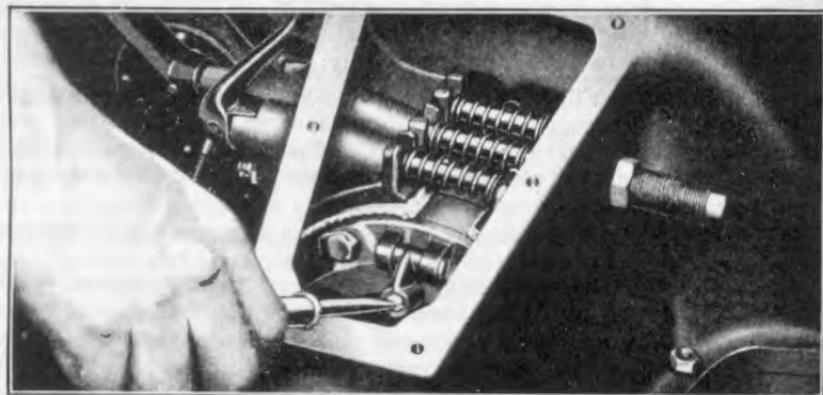

Fig. 507
- 1060** To adjust the clutch, jack up one of the rear wheels and remove the mat, floor boards, and transmission cover door. Place hand brake lever in forward position and turn the engine over with the starting crank until one of the three clutch fingers is directly below the opening in the transmission cover. Withdraw cotter pin from clutch finger screw and give the screw (See Fig. 507) one-half turn (clockwise), then replace the cotter pin and adjust the two other clutch finger screws in the same manner. The transmission cover door is then replaced and the clutch tested for correct adjustment. If the clutch still slips, give each of the three screws another half turn, making sure that all three screws receive exactly the same number of half turns. (If the car has been in service for a long period and the clutch still slips after the clutch finger screws have been run down to the end of their adjustment, the trouble is due either to worn clutch plates or a weak or broken clutch spring.)